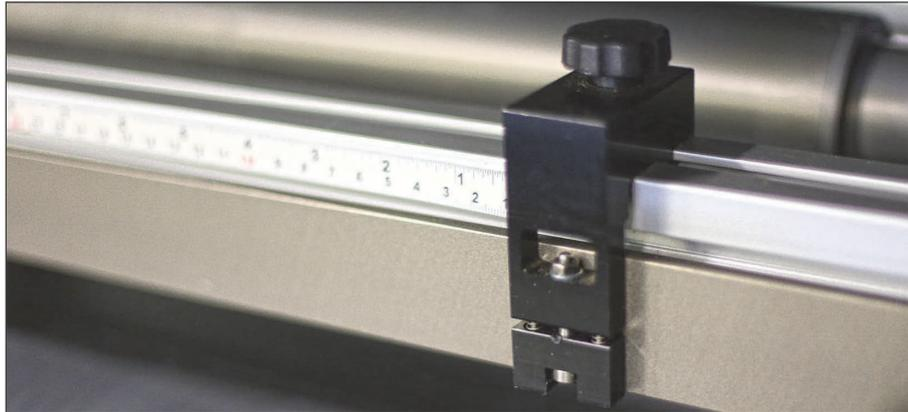

Fig.5-17: Media Set Bar with Lay On Pin
- Step 5: Position the media lay-on pin on the media set bar accordingly (see Fig.5-17).